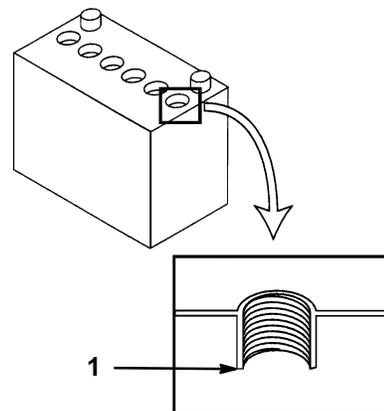

Figure 55
4. Open the cell covers to see into the cells. The electrolyte must be up to the lower part of the tube (Fig. 55). Do not allow the electrolyte to get below the plates.
2. Lift off the filler caps (Fig. 55).
3. Slowly pour distilled water into each battery cell until the level is up to the lower part of the tube (Fig. 55).